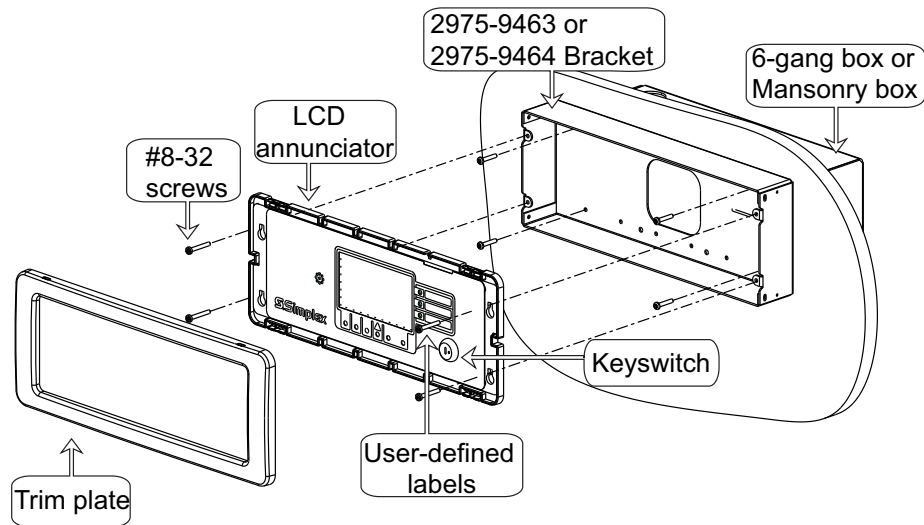
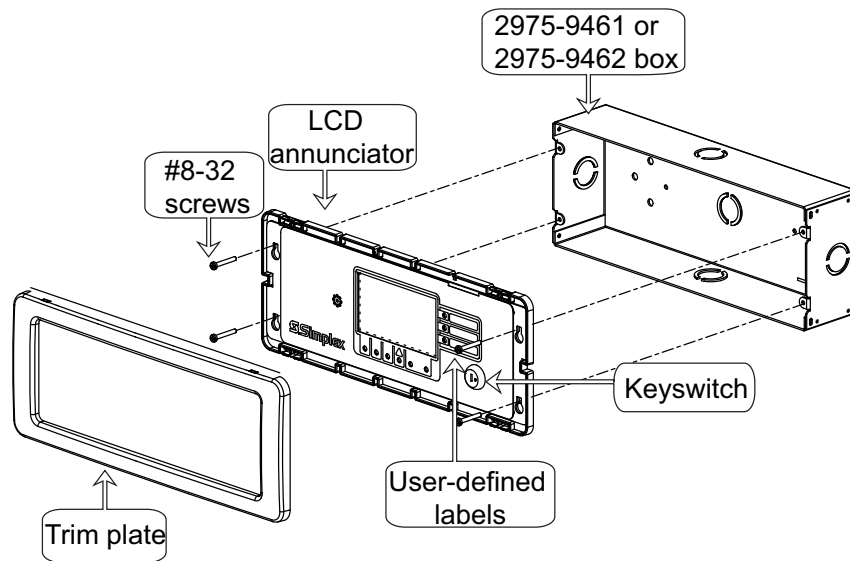

Figure 6. Semi-flush mounting for retrofit installation
Figure 7. Surface mounting
1. Using the four provided screws, mount the annunciator in its back box (see Figure 6 for semi-flush mounting and Figure 7 for surface mounting).